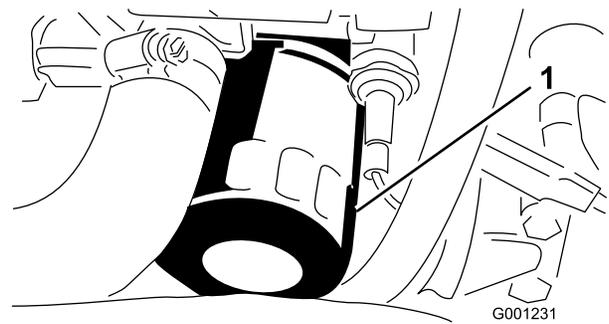

Figure 50
6. Remove and replace the oil filter (Figure 50).